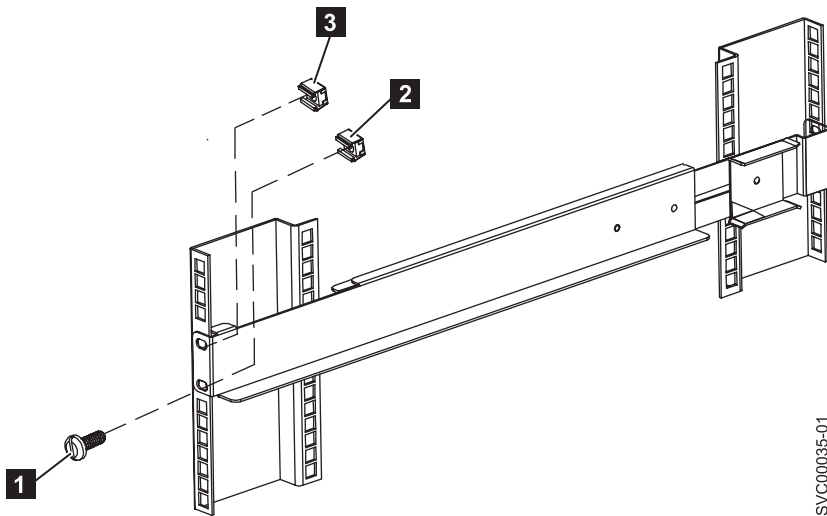

Figure 323. Removing the front rail on the 2145 UPS-1U
3. Remove the clip nut from the top hole of the rail (**3** in Figure 323).